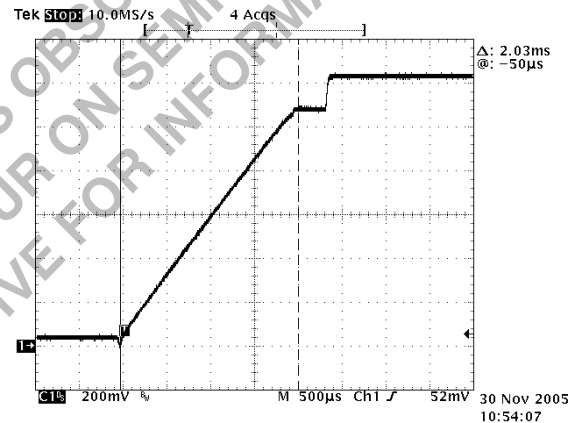

Figure 13. VR11 Startup
The controller will ramp to the 1.1 V, with a pause to capture the VID code then resume ramping to target value based on an internal slew rate limit. See Figure 13. The controller is designed to regulate to the voltage on the SS pin until it reaches the internal DAC voltage. The soft-start cap sets the initial ramp rate using a typical 5.0 μA current. The typical value to use for the soft-start cap (SS), is typically set to 0.01 μF. This results in a ramp time to 1.1 V of 2.2 ms based on equation 1.